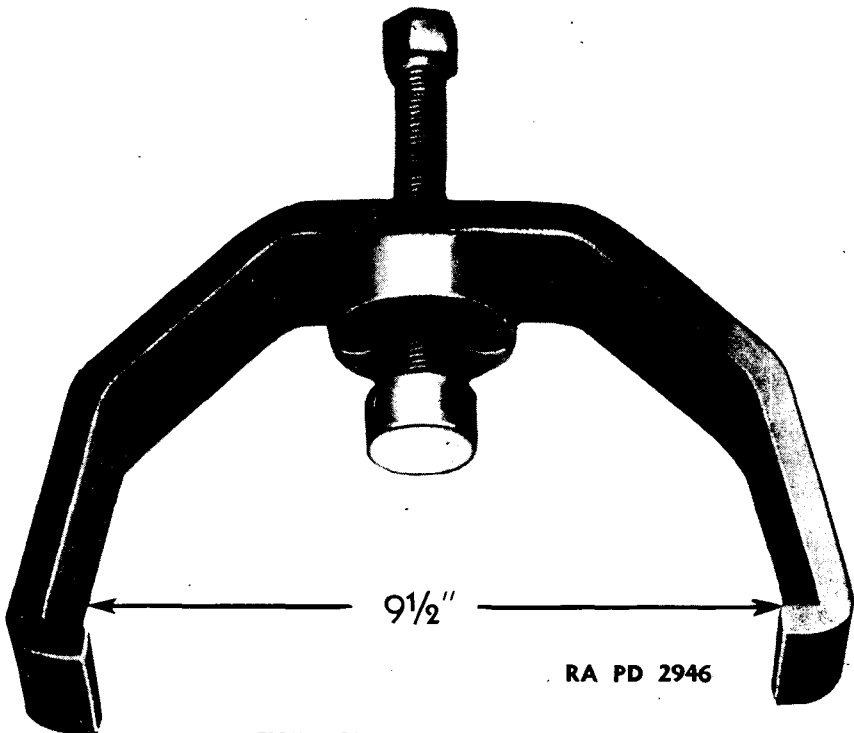

FIGURE 15 — BRAKE DRUM PULLER
(3) Remove and disassemble brake drum. Pry up edge of metal locking washer used for securing brake drum nut. Loosen brake drum nut with special input and countershaft wrench (fig. 23) and remove nut and washer. The drum may be loose enough to permit knocking off with a wooden mallet. If not, use a puller (fig. 15). The sleeve and shield should not be removed from front hub of drum unless damaged, as they may be destroyed in removal. If they must be removed, drive off end of hub with punch through spokes of drum.